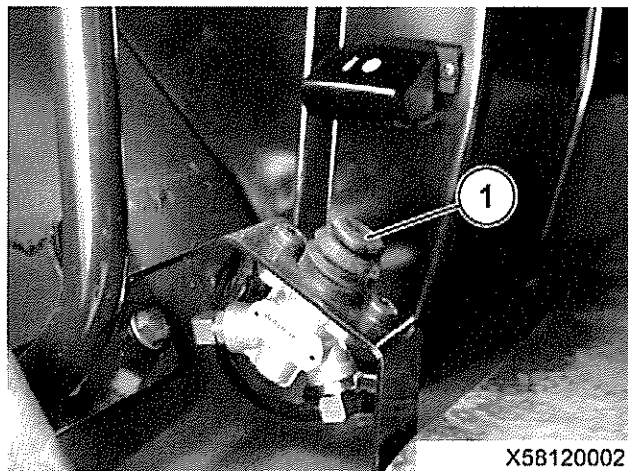

Fig 11 Adjusting the steering wheel
28 Refer to Fig 11. To adjust the steering wheel, proceed as follows:
28.3 Refer to Fig 11. Release the push button (1).